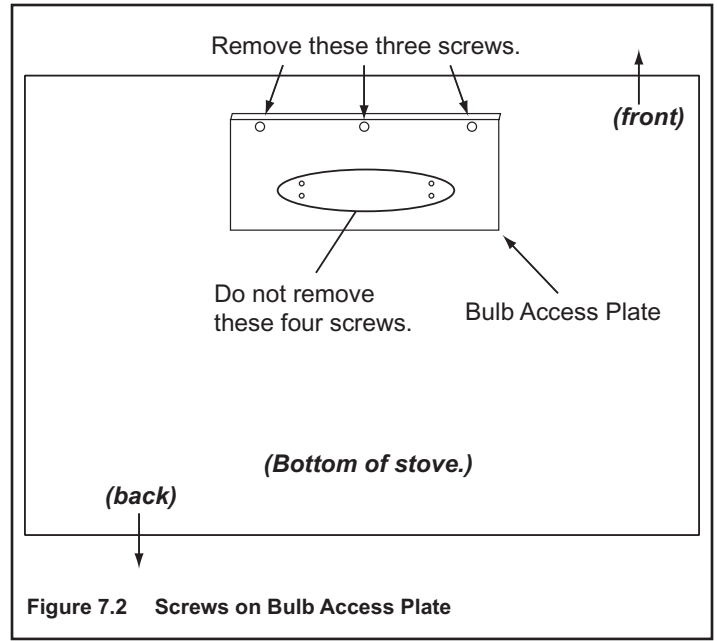

Figure 7.2 Screws on Bulb Access Plate
- Locate and remove the three screws. See Figures 7.2 and 7.3.